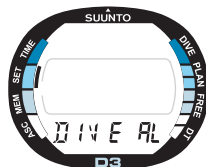

Fig. 4.13. Dive Alarm Setting Mode.
1. In the Setting Mode [SET], press **S** five (5) times to select the Dive Alarm Setting Mode (Fig. 4.13.).